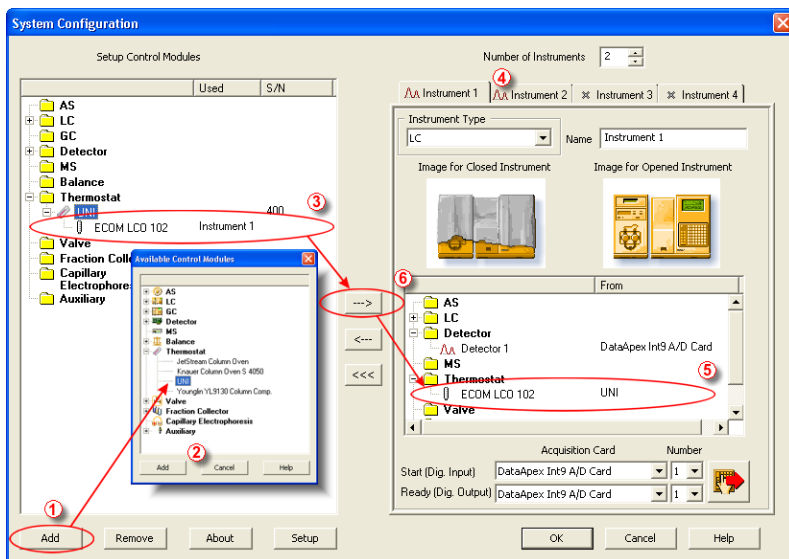

Fig 5: System Configuration
- Press the **Add** button (① on **Fig 5** on pg 5.) to invoke the **Available Control Modules** dialog.
- Select the **UNI** item from the Thermostat group and press the **Add** (② on **Fig 5** on pg 5.) button.